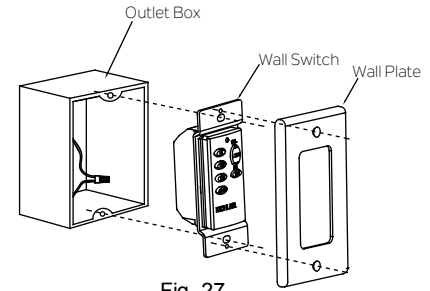

Fig. 27
**Step 2.** Use the screws provided to secure the wall transmitter to the outlet box.(Fig. 27)